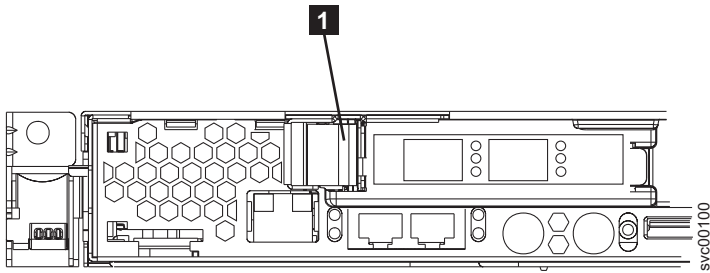

Figure 176. SAN Volume Controller 2145-8F2 or SAN Volume Controller 2145-8F4 PCI slot 1 card retainer
- a. Pull the blue PCI card retainer **1** from the rear of the node, shown in Figure 176 on page 181.